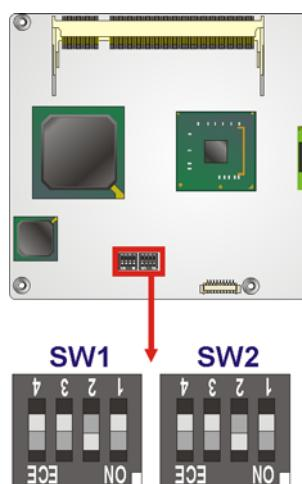

Figure 5–2: Jumper Locations
**Jumper Location:** See **Figure 5–2**